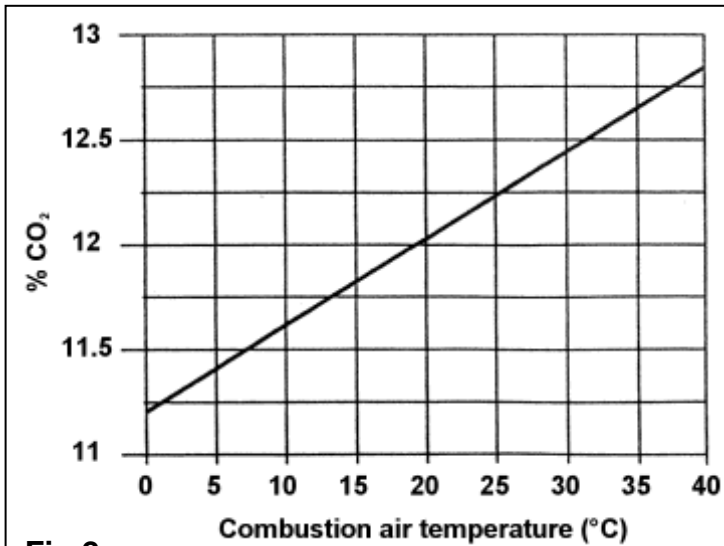

Fig 2
**Note 2** The CO2 ratio is correct for a combustion air temperature of 20°C; see **fig 2** for other temperatures.